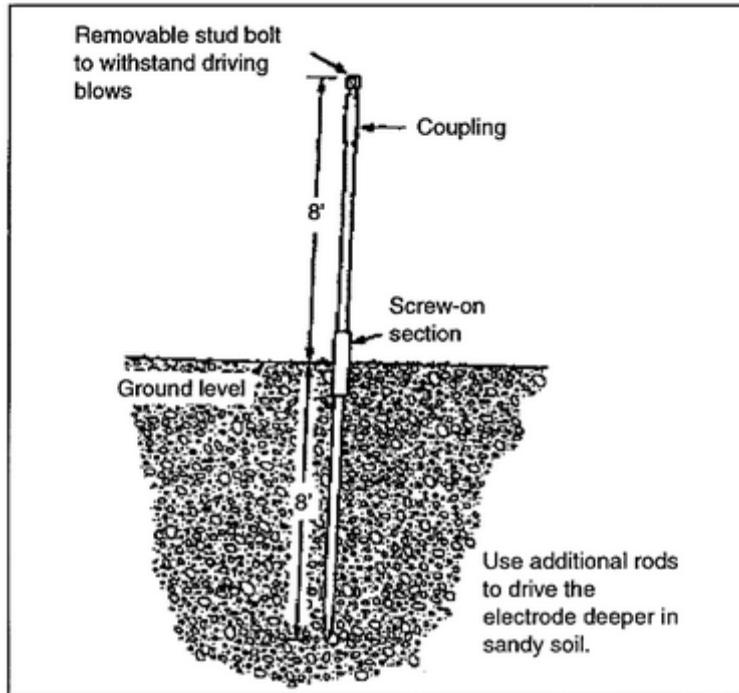

Figure 1-14. Grounding rod reaching the water table
b. Drive grounding rods deeper, if necessary, to reach the water table (Figure 1-14).